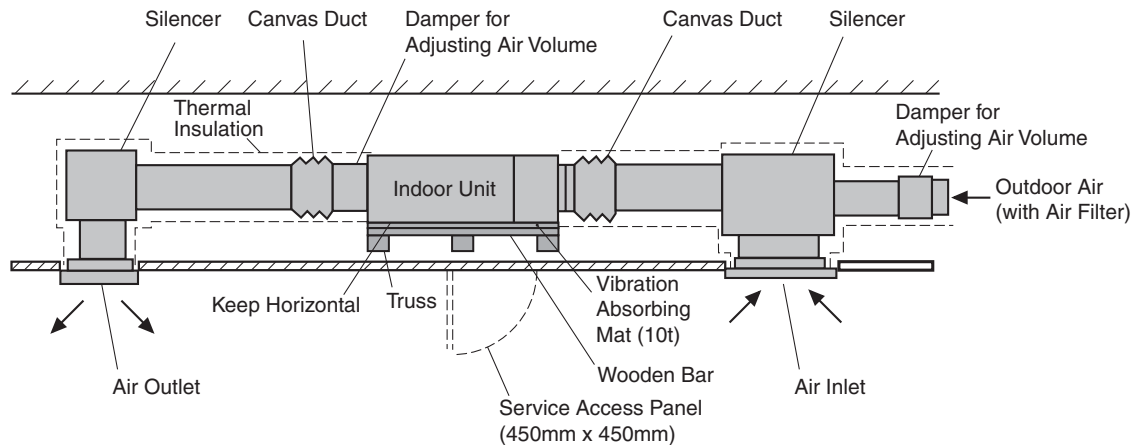

Fig. 4.5 Duct Connection
- (1) The supply duct should be connected with the indoor unit through canvas ducts, in order to avoid abnormal sound vibration (Refer to Fig. 4.5). The unit is equipped with a pre-drilled duct flange for the supply duct connection.
- (2) Attach the vibration proof rubber to Sling Bolt in order to avoid abnormal sound vibration.
- (3) Undamped natural frequency is shown in the table.
- (4) Duct material should be non-flammable material.
- (5) Perform the heat insulation work over the duct for dew protection.